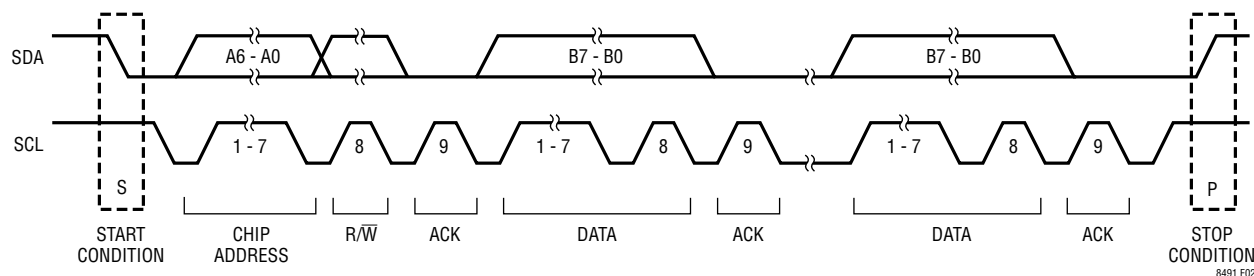

Figure 2. Data Transfer Over I2C Bus
When the bus is idle, both SCL and SDA are high. A bus master signals the beginning of a transmission with a START (S) condition by transitioning SDA from high to low while SCL is high, as shown in Figure 2. When the master has finished communicating with the slave, it issues a STOP (P) condition by transitioning SDA from low to high while SCL is high. The bus is then free for another transmission.